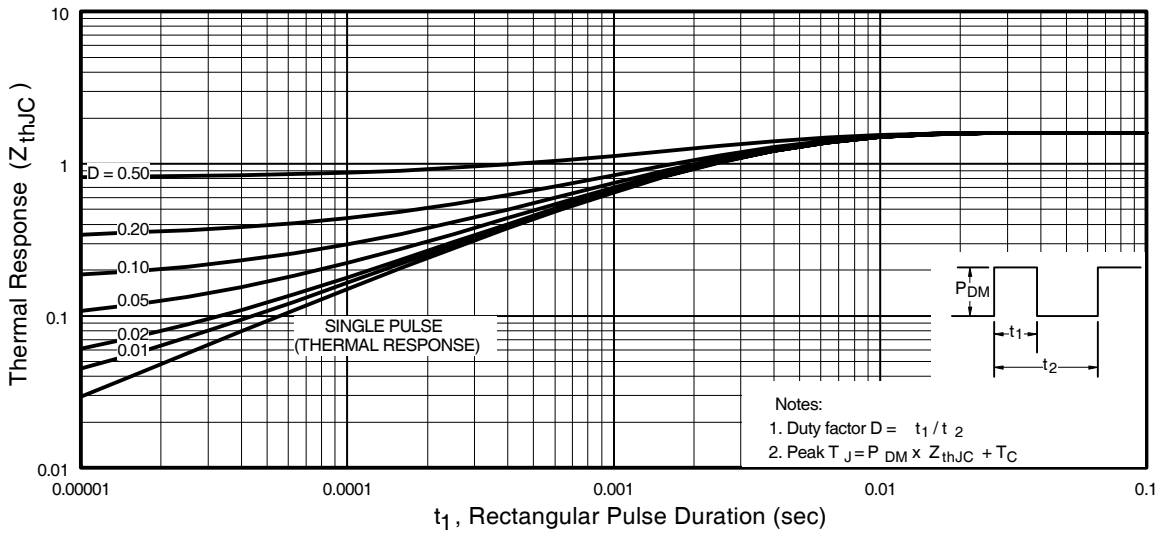

Fig 11. Maximum Effective Transient Thermal Impedance, Junction-to-Case
- ① Repetitive rating; pulse width limited by max. junction temperature. (See fig. 11)
- ② Starting T_J = 25°C, L = 220μH